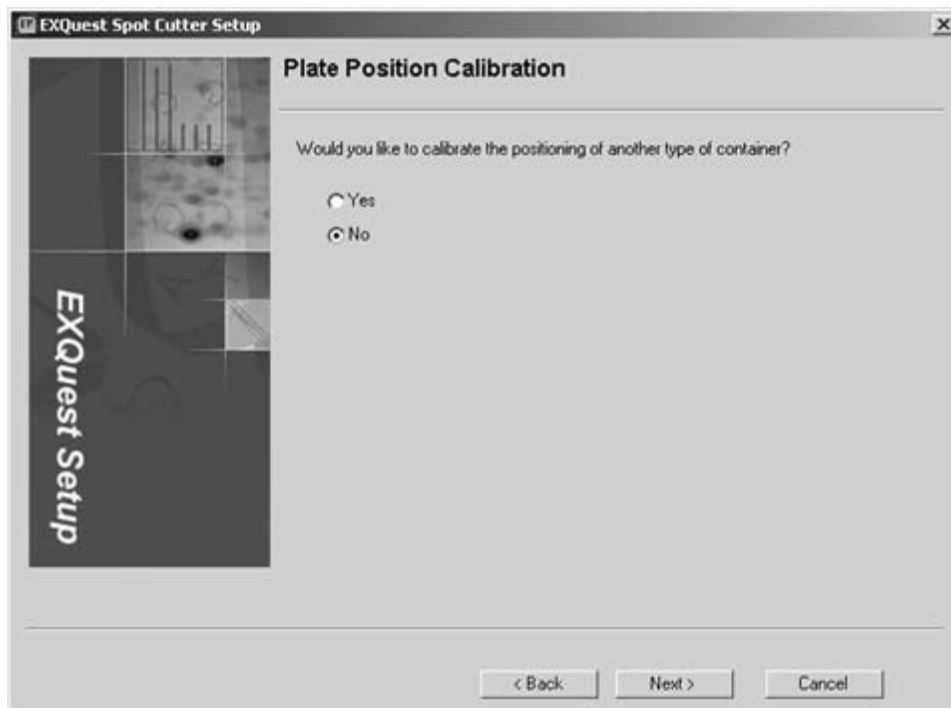

Figure 3-12. Plate position calibration: calibrate another microplate format.
- f. To calibrate another plate format, click **Yes** and then **Next** (see Figure 3-12). To continue to the Wash Station Position Calibration step, click **No** and then **Next**. Press **Cancel** to quit the calibration. The calibration completed in all previous steps will be saved.